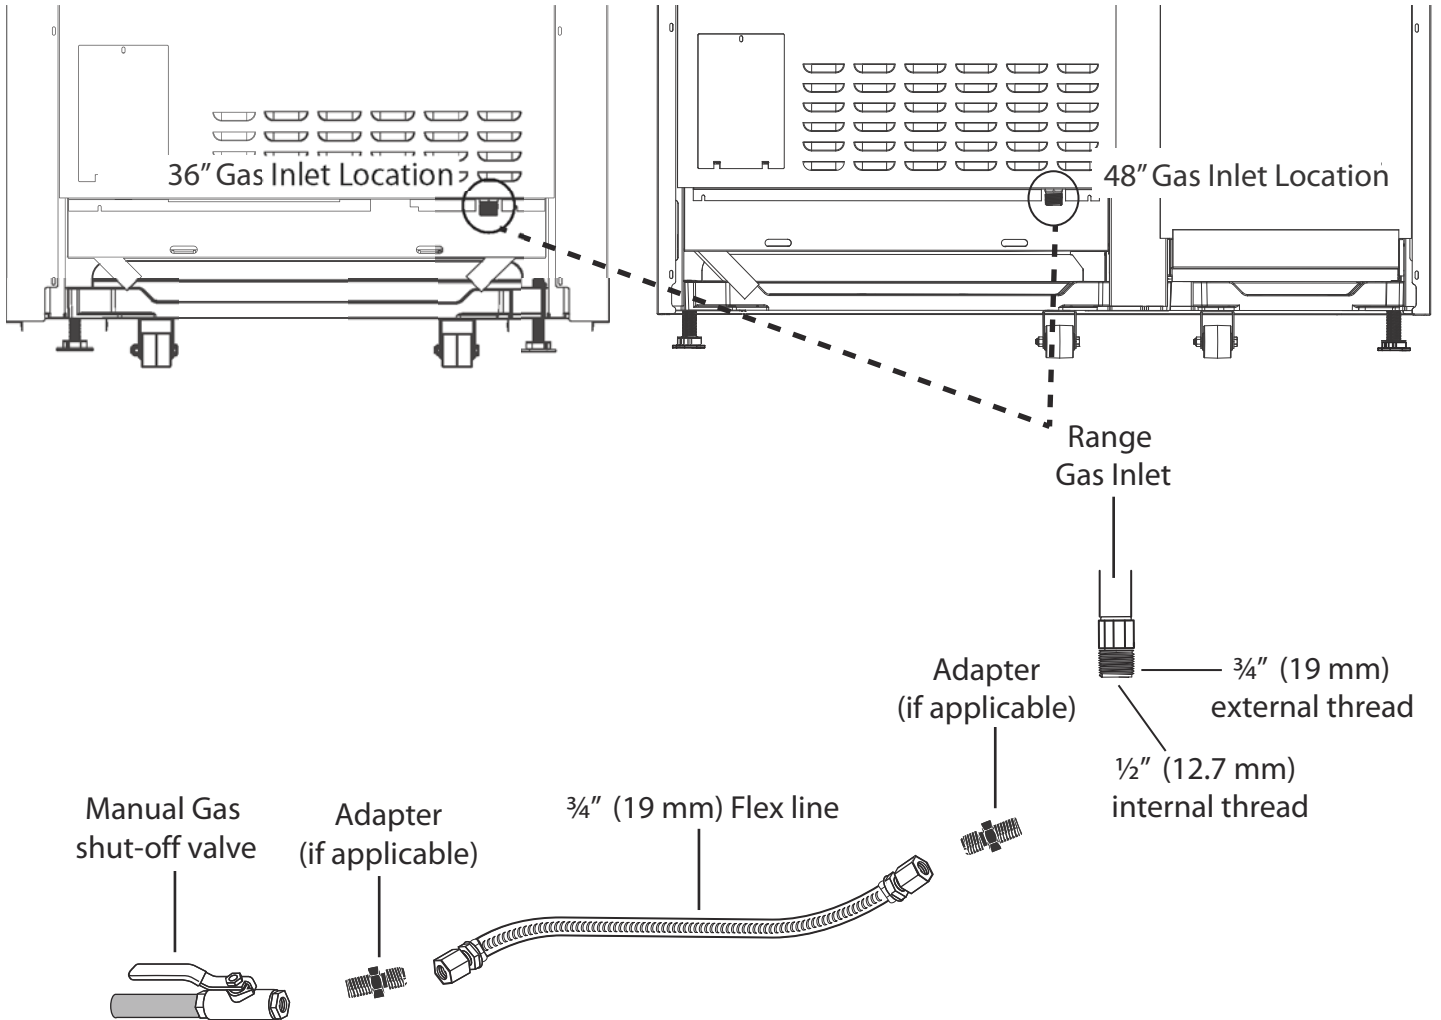

Figure 13: Gas Supply Connection
1. A manual gas shut-off valve (*Figure 13*) must be installed external to the appliance, in a location accessible from the front, for the purpose of shutting off the gas supply. The supply line must not interfere with the back of the unit. Make sure the gas supply is turned off at the manual shut-off valve before connecting the appliance.
2. Locate the gas supply line connection at the back of the range (*Figure 13*).
3. Use a 3/4" (19 mm) flex line to connect between the gas supply and the appliance gas inlet. The appliance gas inlet connection is 1/2" (13 mm) NPT (*Figure 13*).